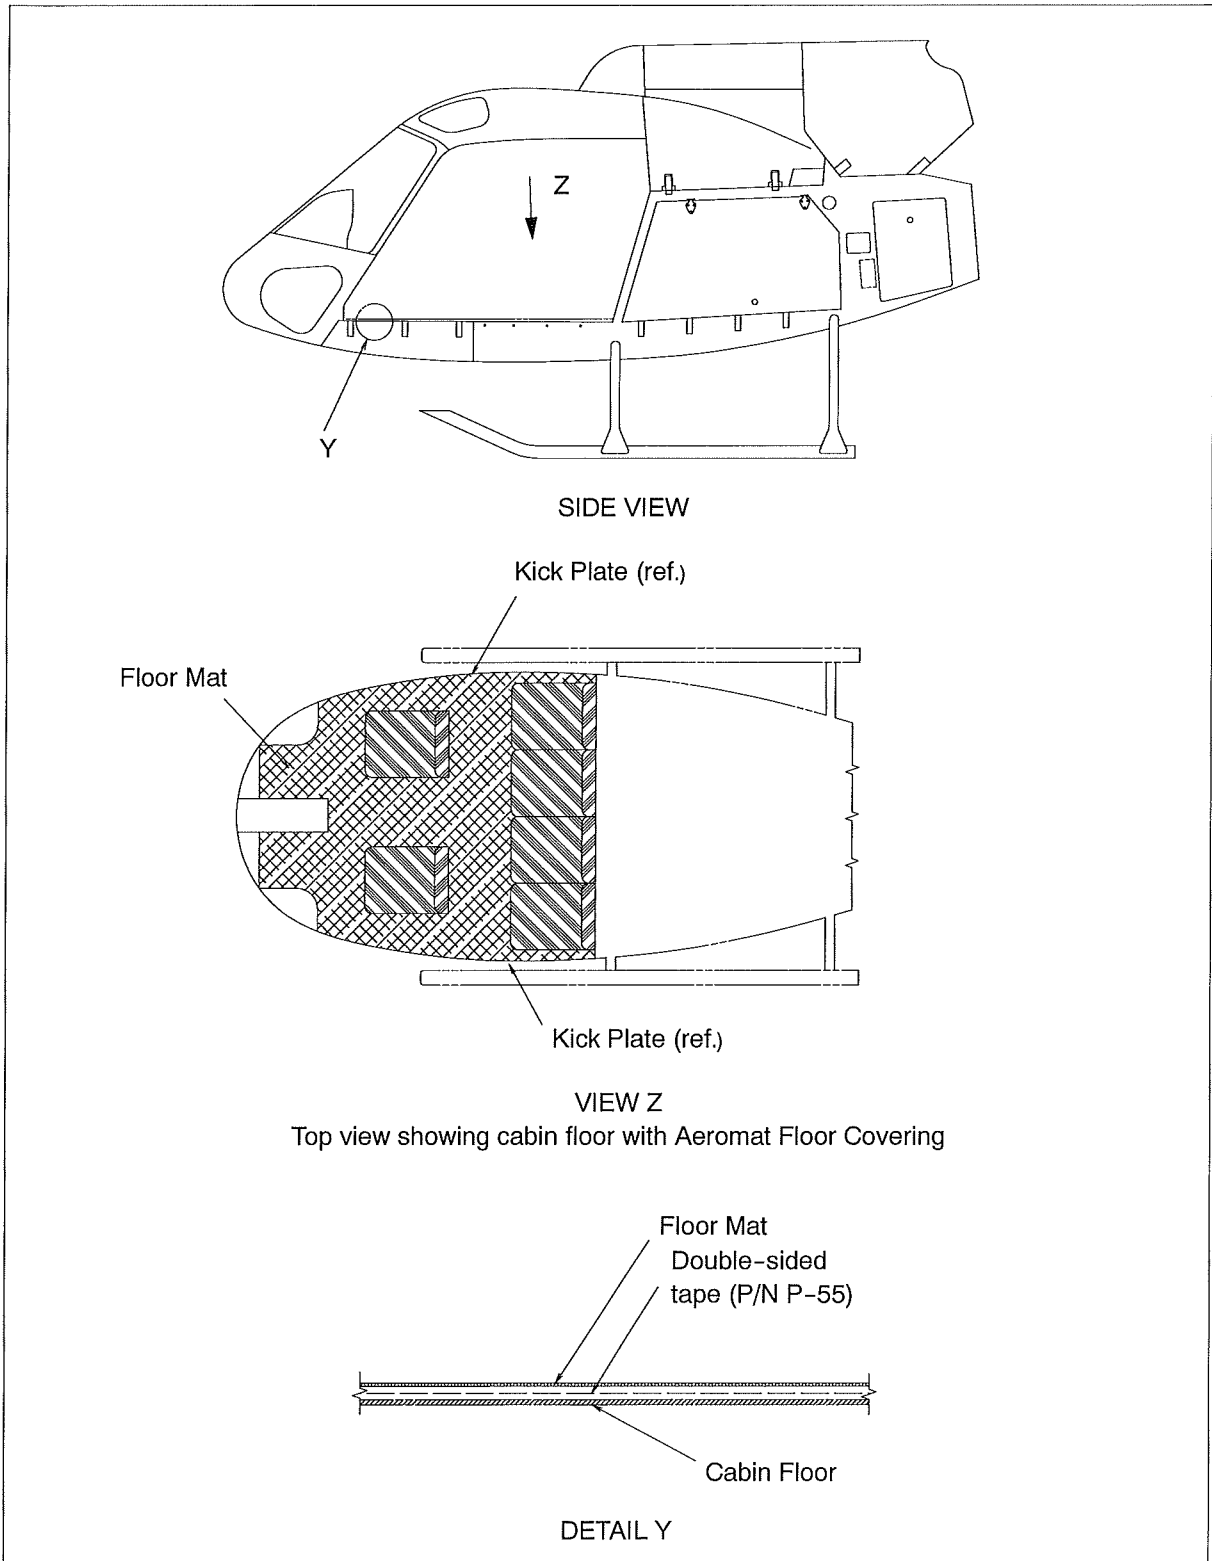

Figure 2 Standard Interior Modifications, Floor Covering Details
1) FLOOR MAT (Refer to Figure 2)